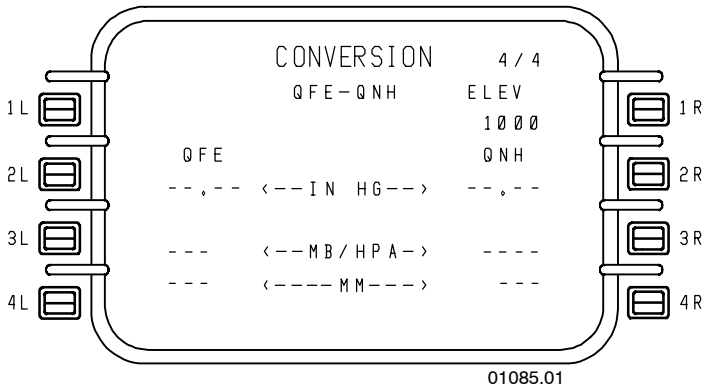

Figure 6-158
- **CONVERSION 4/4** - Figure 6-158 shows the QFE-QNH conversion page. This page is designed to support QFE/QNH conversions and provide conversions between barometric altimeter units.